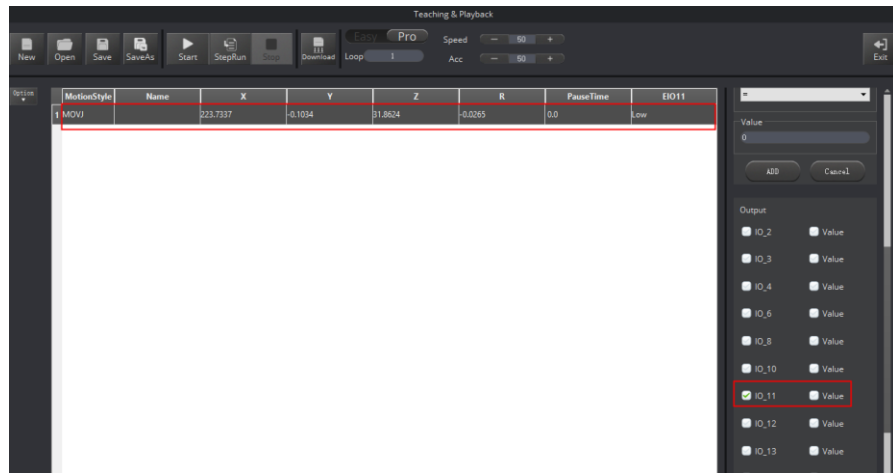

Figure 5.209 Saved point
Step 2 Select **IO_11** on the Output pane, and click **+Point**, as shown in Figure 5.209.